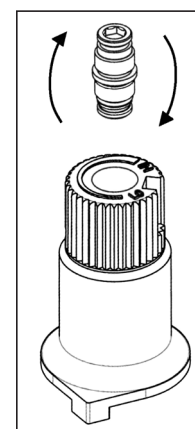

Figure 14: Flip valve screw.
- e) Flip the screw (refer to Figure 14).